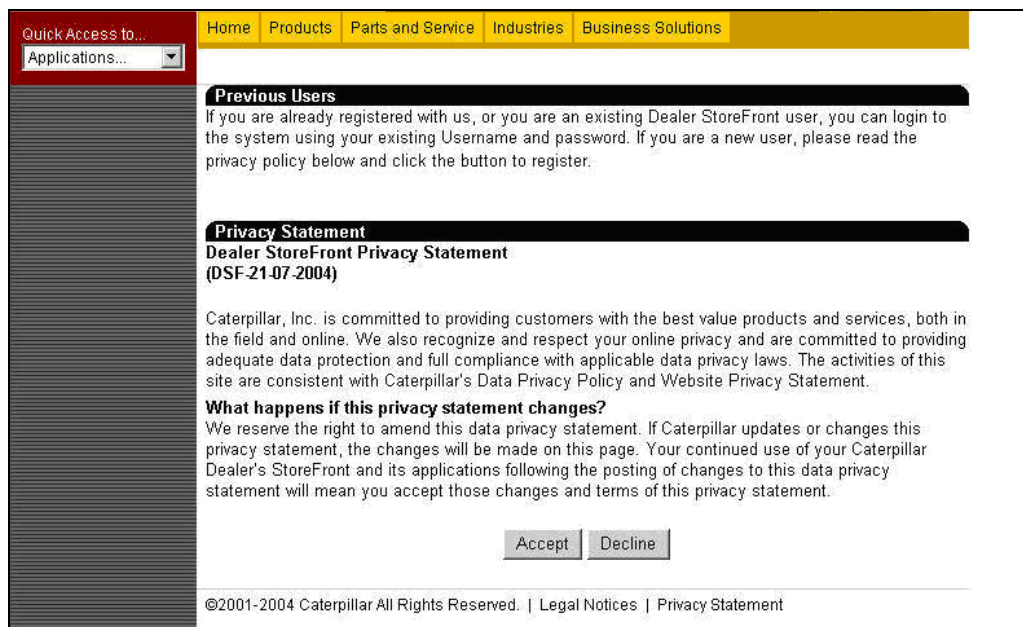

Figure 2 : Privacy Statement Screen
The 'Privacy Statement' screen is displayed. (Figure 2)
- At the bottom of the 'Privacy Statement' screen, click 'Accept.' (Figure 2)